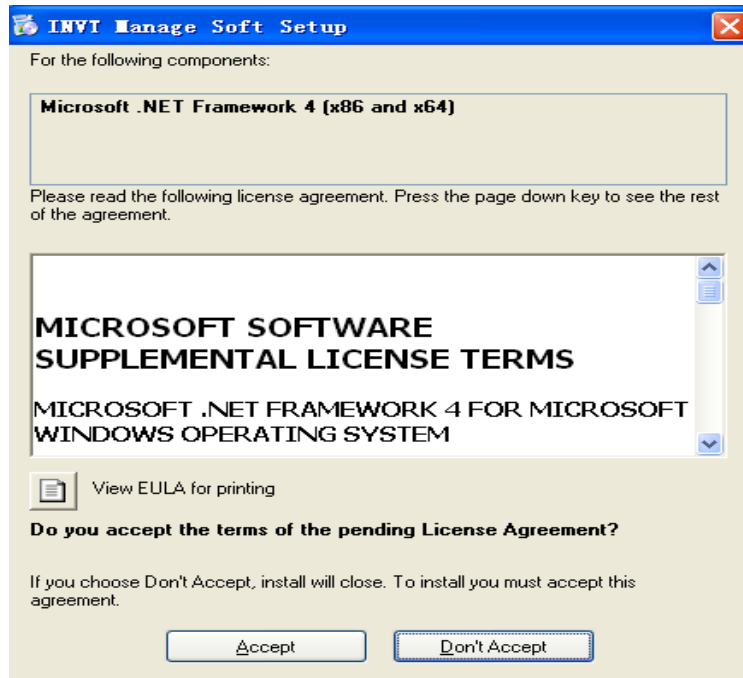

fig.2 The installation of .Net Framework 4.0
2、If computer cannot detect the Microsoft .Net Framework 4.0 Before the software installation, the package will automatically install the component first, as shown in Fig.2, click Accept to begin the installation, this process will takes a few minutes, please wait patiently.